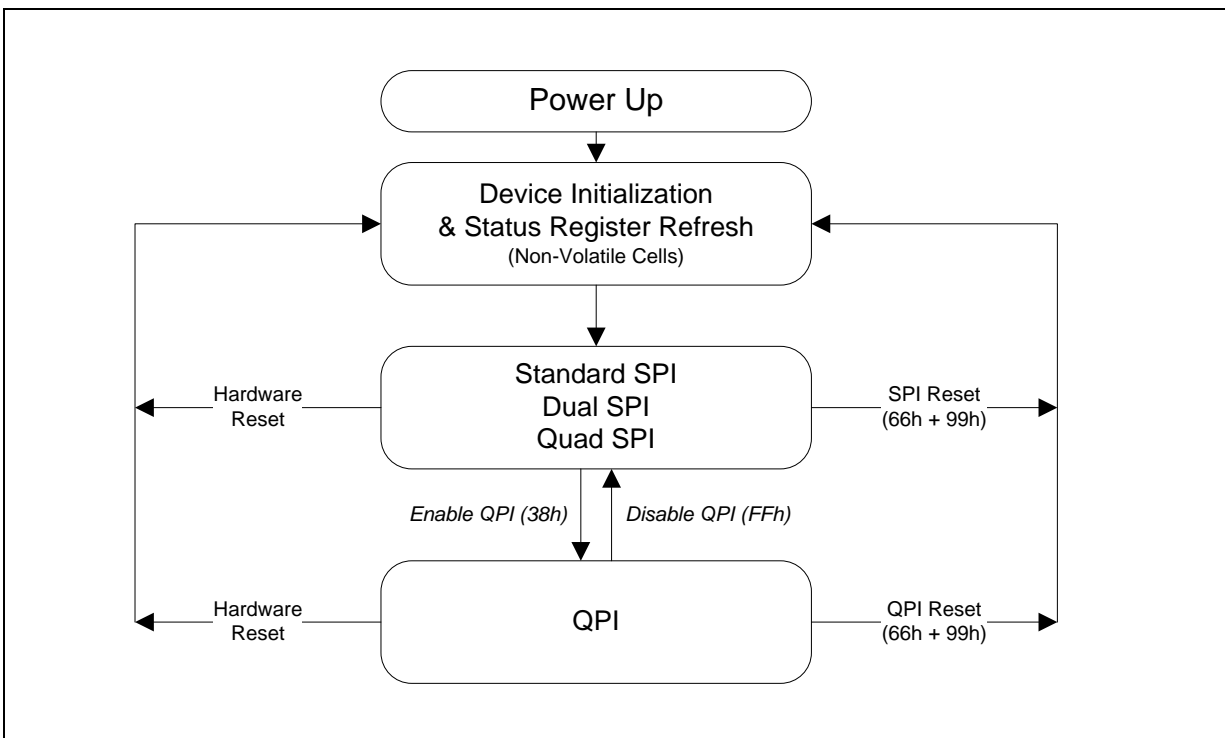

Figure 3. W25Q80RV Serial Flash Memory Operation Diagram
The W25Q80RV supports Quad Peripheral Interface (QPI) operations only when the device is switched from Standard/Dual/Quad SPI mode to QPI mode using the “Enter QPI (38h)” command. The typical SPI protocol requires that the byte-long command code being shifted into the device only via DI pin in eight serial clocks. The QPI mode utilizes all four IO pins to input the command code, thus only two serial clocks are required. This can significantly reduce the SPI command overhead and improve system performance in an XIP environment. Standard/Dual/Quad SPI mode and QPI mode are exclusive. Only one mode can be active at any given time. “Enter QPI (38h)” and “Exit QPI (FFh)” commands are used to switch between these two modes. Upon power-up or after a software reset using “Reset (99h)” command, the default state of the device is Standard/Dual/Quad SPI mode. To enable QPI mode, the non-volatile Quad Enable bit (QE) in Status Register-2 is required to be set. When using QPI commands, the DI and DO pins become bidirectional IO0 and IO1, and the /WP and /HOLD pins become IO2 and IO3 respectively. See Figure 3 for the device operation modes.